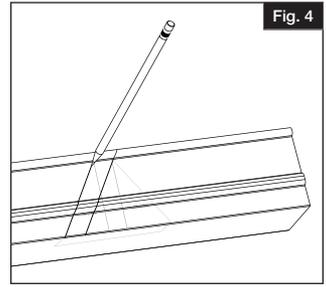
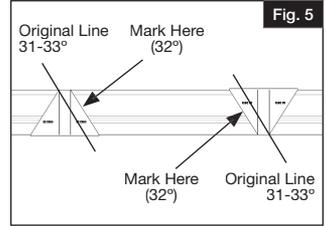

Fig. 4
Fig. 5
Place bottom rail across post opening leaving equivalent spacing from the last baluster and post on each end (Fig. 3). Mark 2" from end of post to allow room for bracket width and expansion (Fig. 4). Align top rail with bottom rail and cut both rails with miter box or hacksaw (See blade manufacturer's specs for correct blade) (Fig. 5).
a. From the original line created by the post, mark another line $\frac{1}{16}$ " on the inside of the bottom rail (closer to the baluster routes) (Fig. 4). This is accomplished by using the angle template (Fig. 5). This additional removal of material will allow for bracket clearance when the rail is installed. For this 31°-33° angle, the new line will be parallel to the previously drawn line.